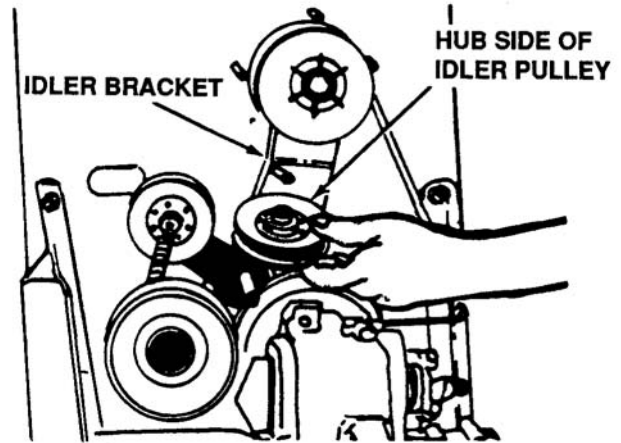

Figure 7-19. Reassembly of Idler Pulley
11. Upon reassembly of idler pulley, be certain the hub side of idler goes against the idler bracket. See Figure 7-19.